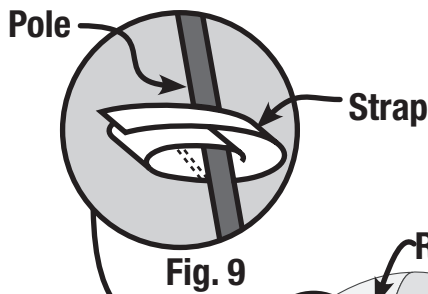

Fig. 9
- Secure rainfly with straps located on the underside of rainfly. (Fig. 9)